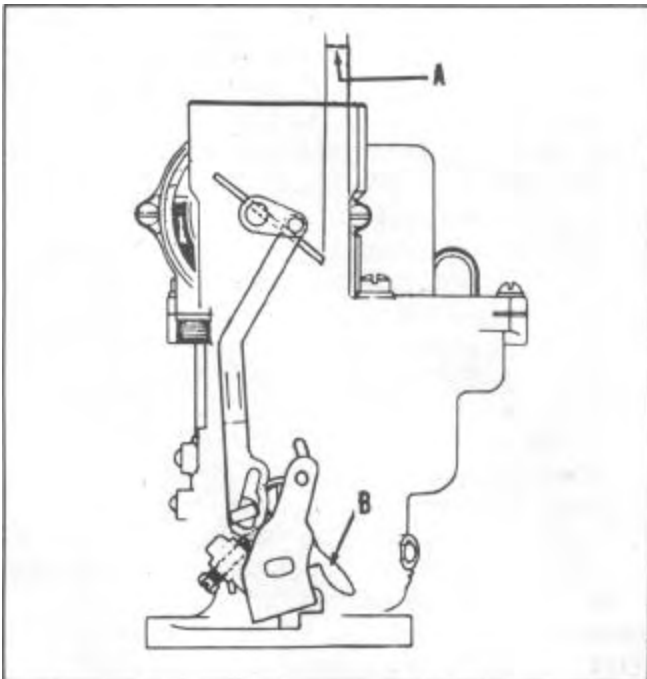

FIGURE 38
3. Clearance between lower edge of choke valve and air horn should be $5/8$ " as shown at (A), Figure 38.
1. Open throttle wide open and check clearance between lower edge of choke valve and air horn. Clearance should be $7/16$ " (A), Figure 38.
2. Adjust by bending cam (B) on throttle lever.